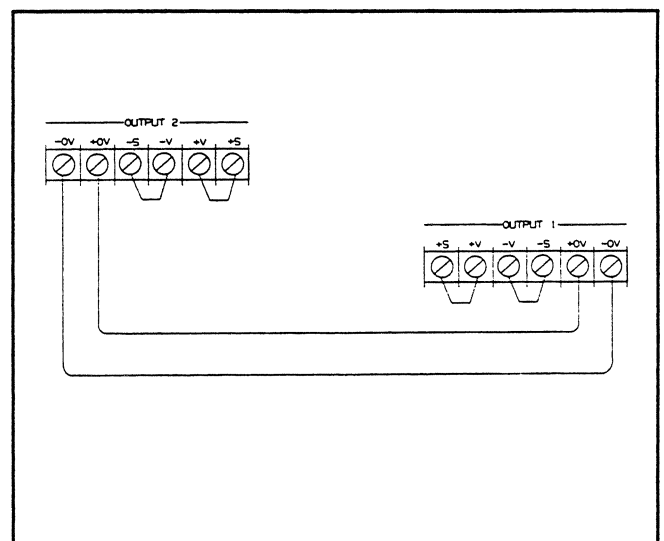

Figure 3-12. OV External Trip Test Connections
- Turn off the supply and connect the OV terminals of all outputs in parallel noting proper polarity. Figure 3-12 shows two outputs connected in parallel.